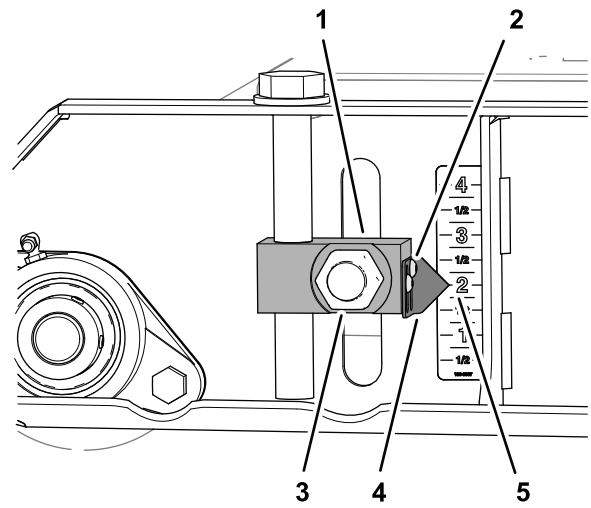

Figure 82
3. Loosen the 2 socket-head screws that secure the pointer to the height-of-cut adjuster block, align the pointer to the 2 inch mark on the decal, and tighten the screws (**Figure 82**).
7. Torque the 4 nuts that secure the 4 height-of-cut adjuster blocks (Figure 82 and Figure 84) for the front and rear rollers to 322 to 396 N·m (238 to 292 ft-lb).